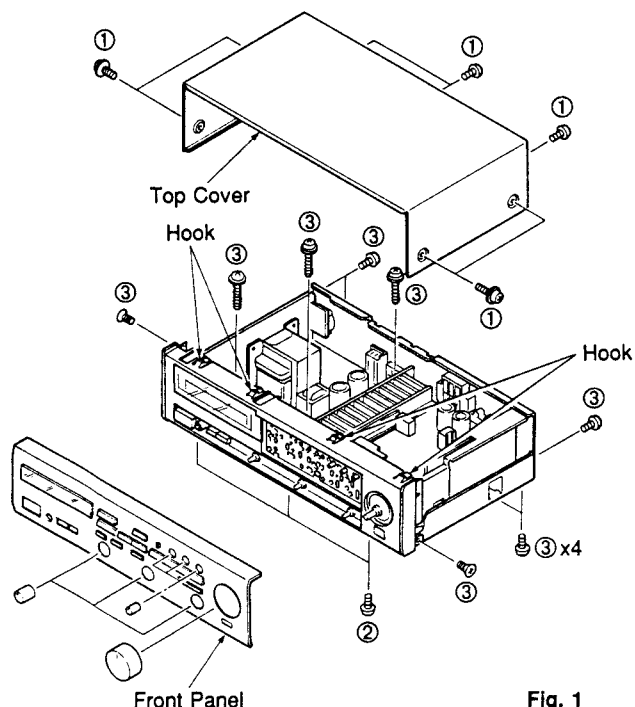

Fig. 1
Remove 7 screws (①) in Fig. 1 and slide the Top Cover back and up.
- Remove 3 screws (②) and 4 hooks in Fig. 1, and pull the Front Panel forward.
- Remove 12 screws (③) in Fig. 1.